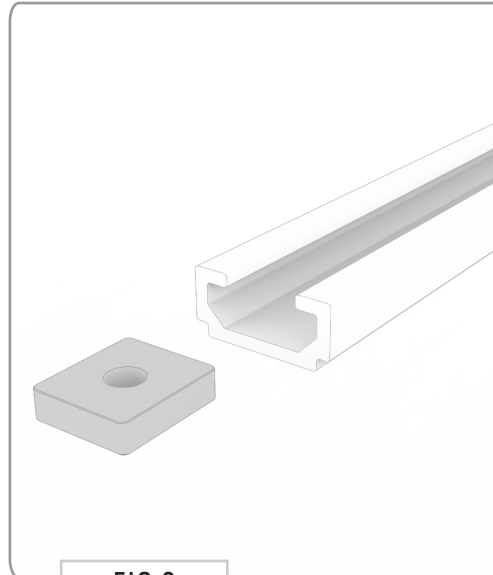

FIG 8
**3.1 Roof Rail Nuts:** Slide in **Rail Nuts** to location of install along the Roof Rail (**FIG 8+9**). In this case, directly above the Rear Wheel Well.